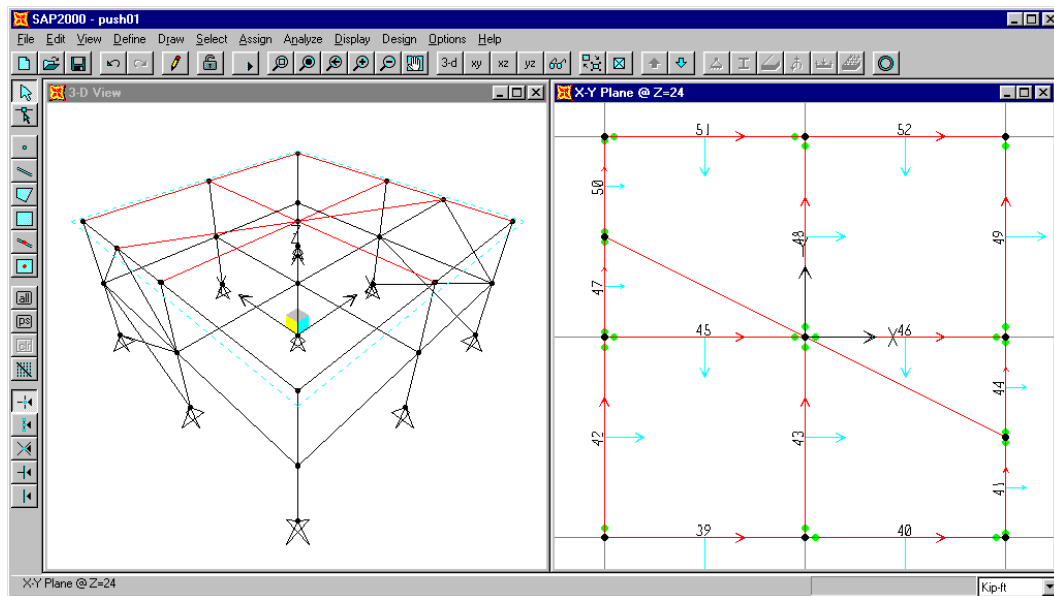

Figure C-16: Frame Element Local Axes Arrows
10. In this dialog box check the Local Axes box and the Labels box in the Frames area and click the OK button. The local axes arrows appear as shown in Figure C-16.